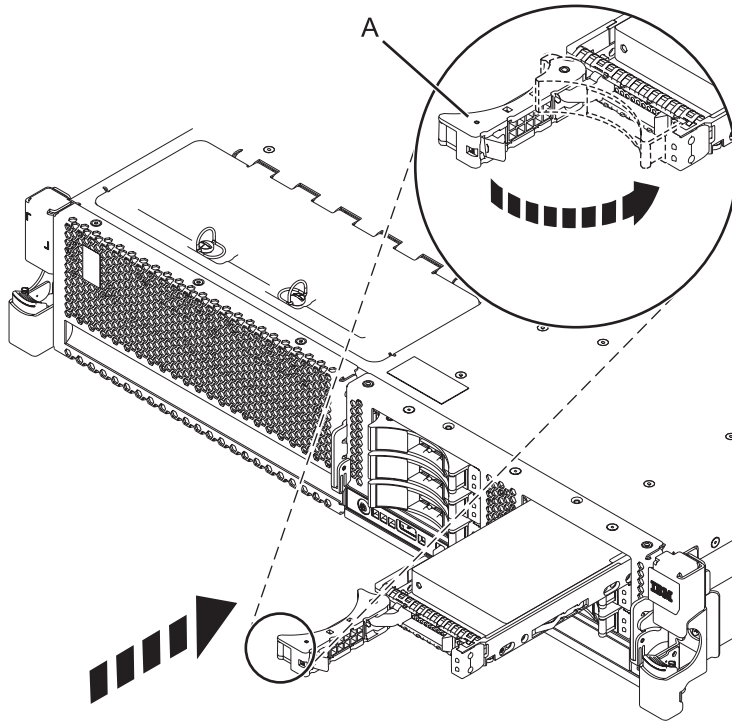

Figure 21. Replacing a disk drive in the system
5. When the identify LED turns on solid, slide the drive all the way into the system, and push the drive handle **(A)** in until it locks, as shown in Figure 21 on page 37.